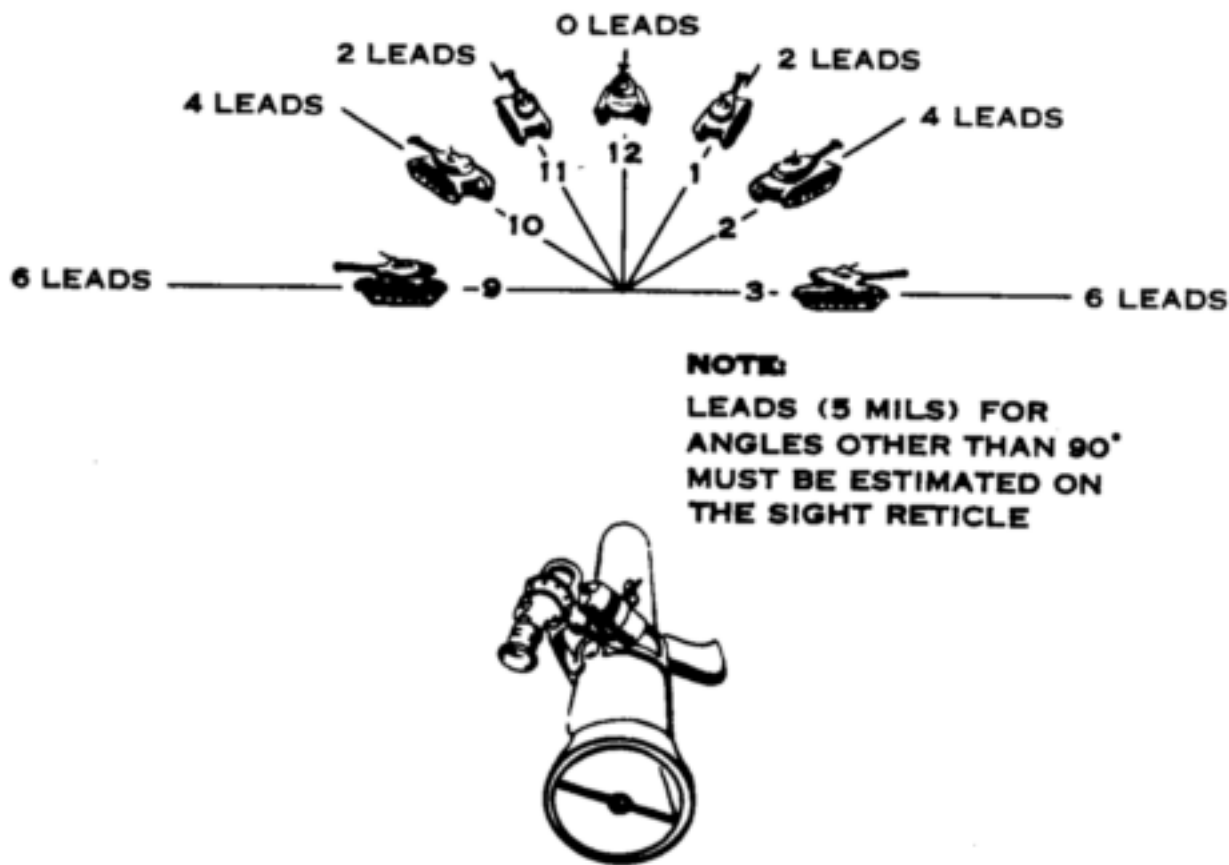

Figure 41. Common lead rule.
- c.* An alternate means of determining leads is the common lead rule. The number of leads required is determined by the direction the target is moving in relation to the gun position (fig. 41). Target speed is assumed to be 15 miles per hour. If the target is moving directly toward or away from the gun position, no leads are required. If the target is moving from 1 or 11 o'clock, two leads are used; from 2 or 10 o'clock, four leads; and from 3 or 9 o'clock, six leads.